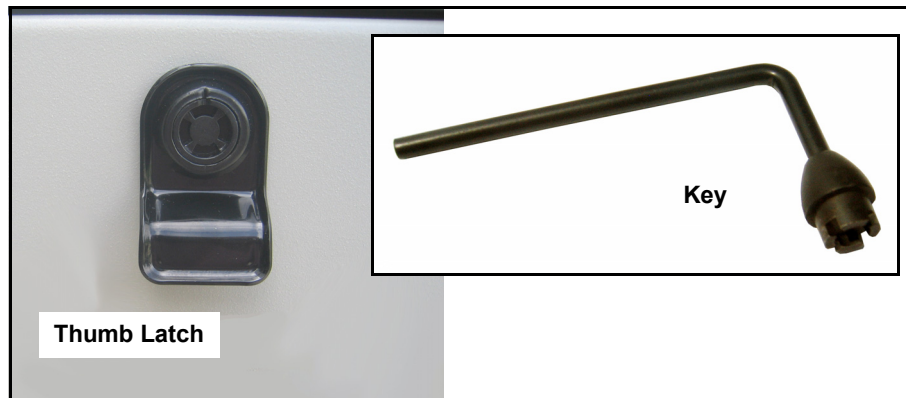

Figure 3-2. Access Panel Key
2. Insert key into latch and rotate counterclockwise 1/2 turn. See Figure 3-2.